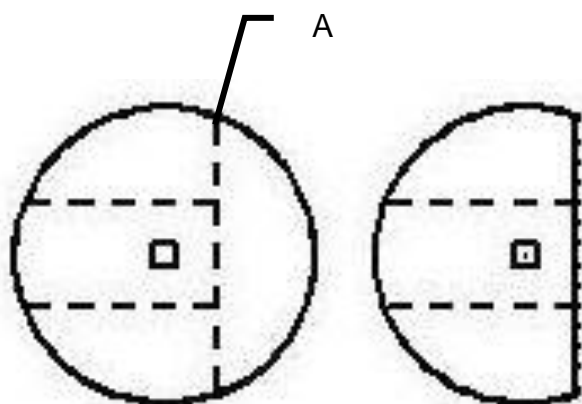

Figure 1
3. The mounting hole will be 3/4" in diameter. Use a plastic pad (006-4641F) and place it into the baler to use as a template. The bottom edge of the pad will be placed 1" up from starting roll and 2" from the back of the bale chamber. (Figure 1)